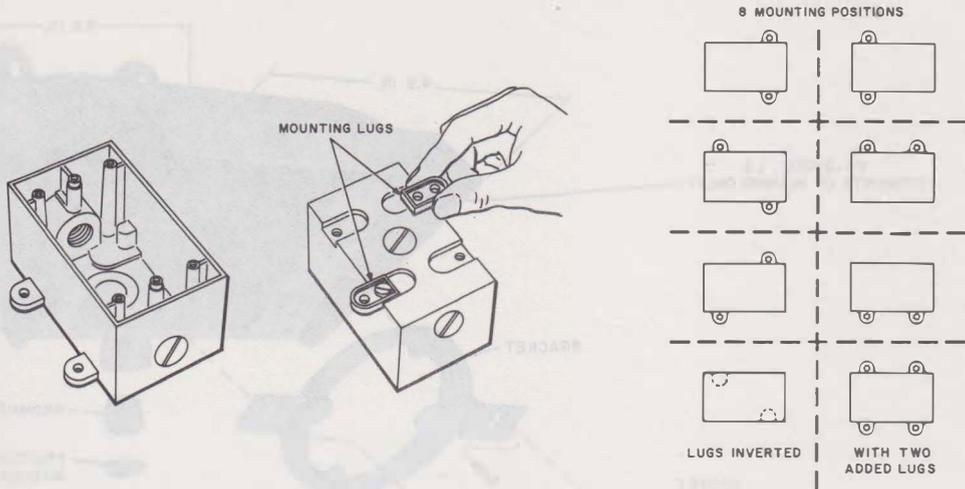

Fig. 13—KS-19316, List 6 Housing Box Showing Reversible Mounting Lugs
- (1) Arrange cable at location selected for jack installation.
- (2) Use housing box with positioned mounting lugs to mark lug mounting holes (Fig. 13).
- (3) Drill holes and secure housing box to mounting surface with No. 8 PH or FH cadmium plated tapping screws.
- (4) Place gland nut, friction washer, and grommet on cable.